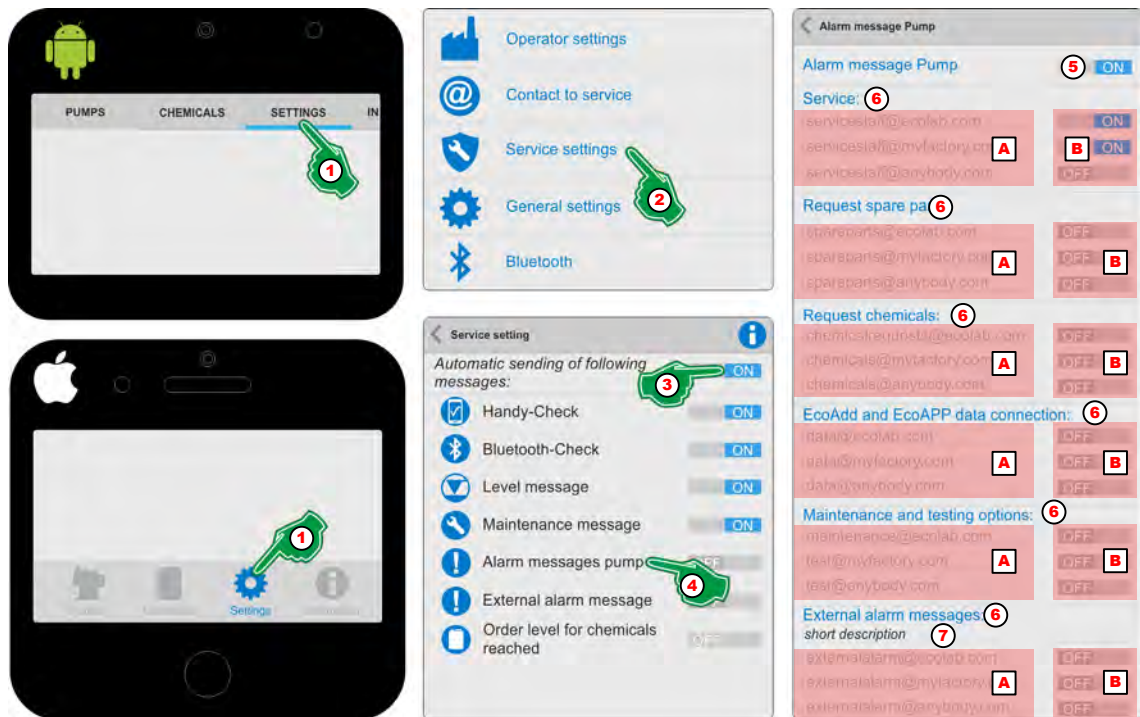

Fig. 49: ‘Alarm messages pump’ !
1. Select [Settings] (Fig. 49, Pos. 1).
2. Select [Service Settings] (Fig. 49, Pos. 2).
3. Turn on ‘Automatic sending of the following messages’ (Fig. 49, Pos. 3) **ON**.
4. The symbol or designation ‘Alarm messages pump’ ! (Fig. 49, Pos. 4).
5. ‘Alarm messages pump’ (Fig. 49, Pos. 5) **ON**.
6. Turn on desired service contacts (Fig. 49, Pos. A) **ON** (Fig. 49, Pos. B) .
7. To display errors when using an external controller (Fig. 49, , Pos. 7) introduce a brief description (Fig. 49, Pos. 8) for identification.